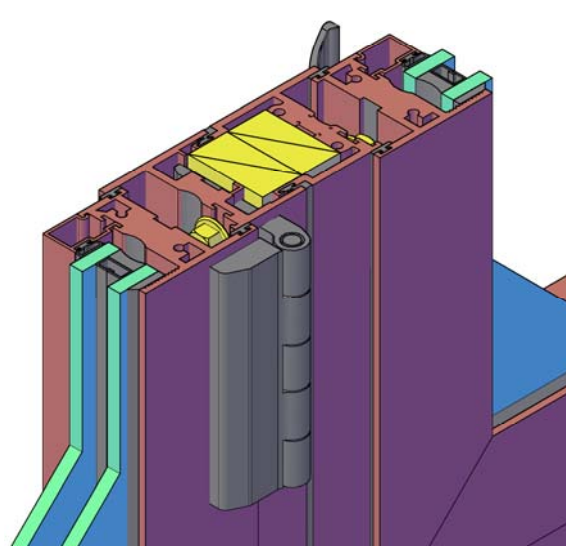
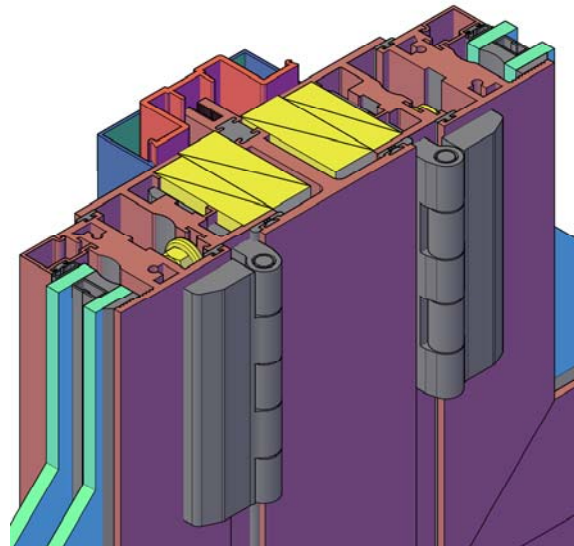

Fig. 4
Fig. 5
11) Utilizing butt hinges at side stacked or mulled window units on the mullion or side stack side is technically possible, but will require extra care and blocking to prevent deformation of the window frame from anchors and rotational load of the casement sash. The space to receive the blocking is not readily accessible once the windows are placed in their respective installation position. (See Fig. 4 and Fig. 5)